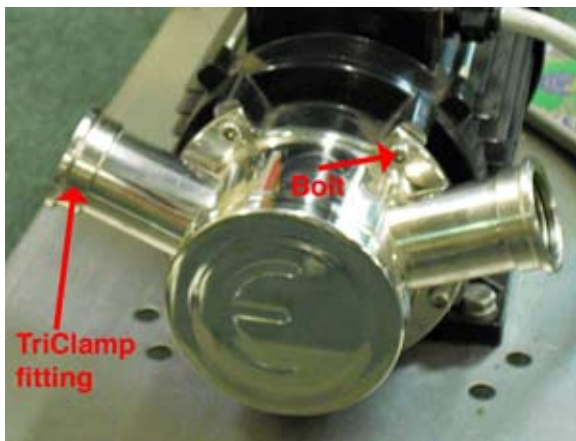

Fig. 3. Do NOT overtighten metric allen bolts.
3. Clean and lubricate pumphead and impeller after every 80 hours of use (at least annually). See Fig. 3 and 4.
Problem: See Fig. 3. **Leak at inlet or outlet TriClamp fitting.** The TriClamp ferrule is threaded onto the pumphead pipe. Use pipe wrench to remove the fitting. Apply teflon tape and reassemble.